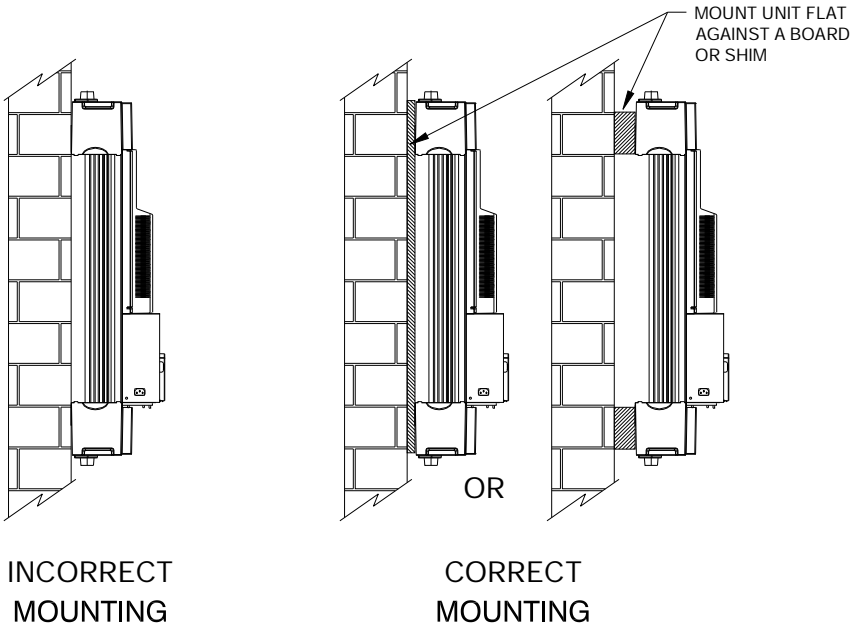

Figure 1E
Step 2: The Upstream has keyhole slots for convenient mounting – use all four mounts. **Do not mount the unit directly to an outside wall; mount on plywood or shims – See Figure 1E.** Remove the top and bottom covers of the unit to make the mounting holes accessible.